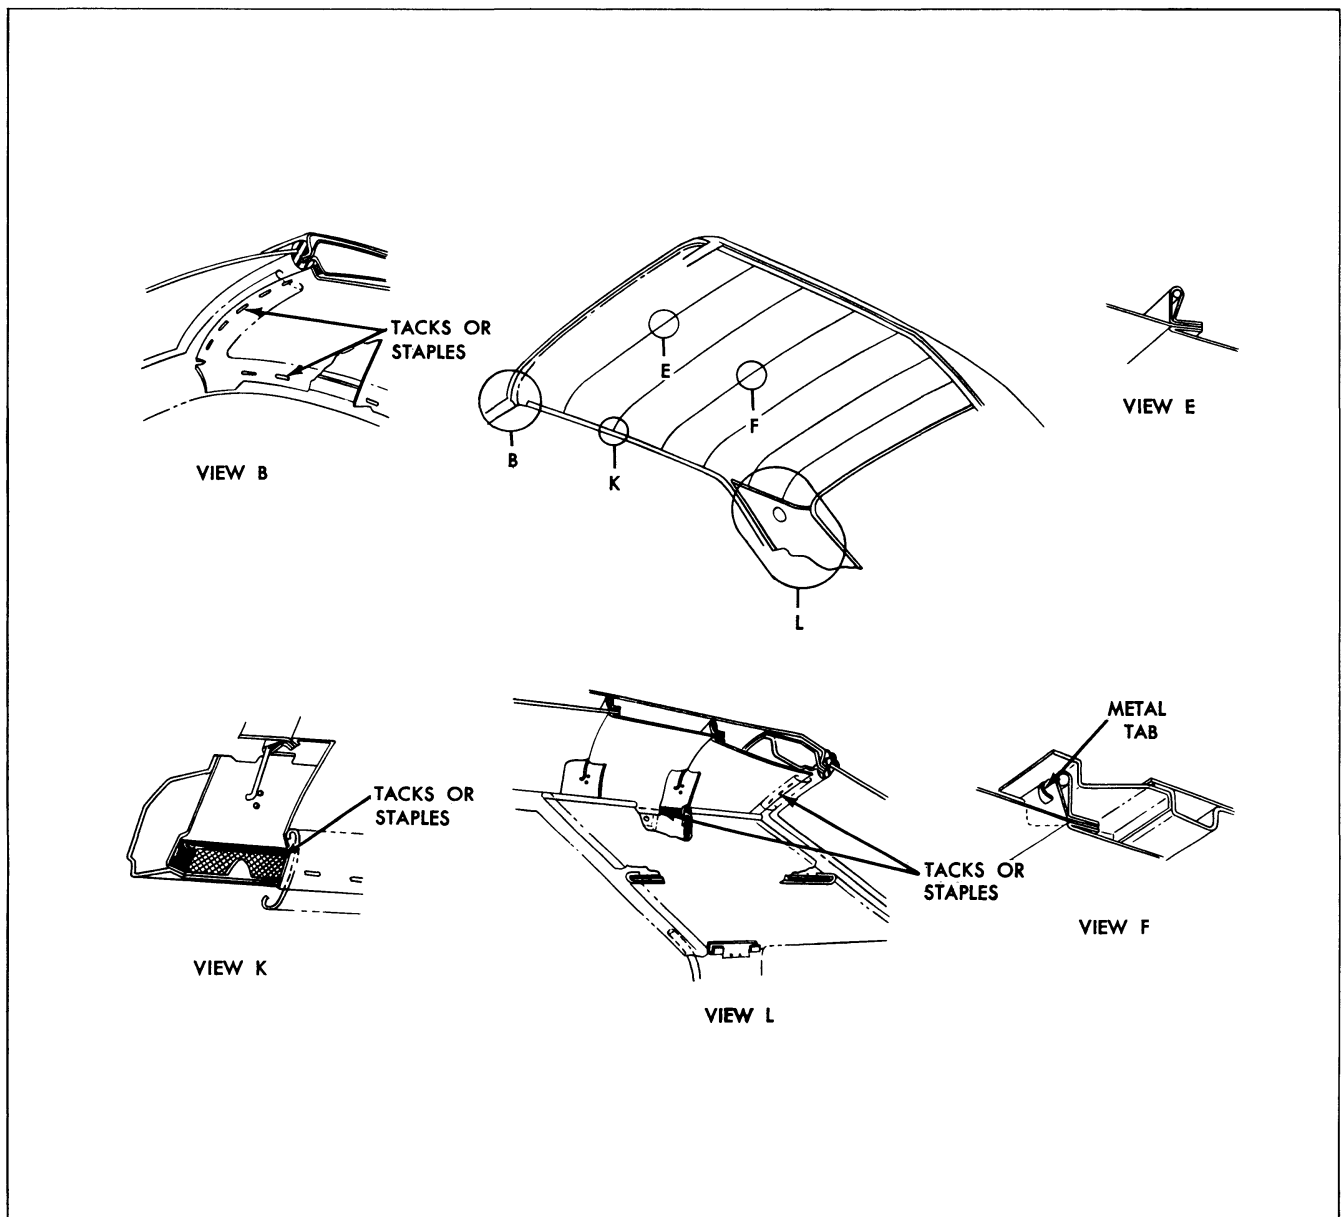

Fig. 7-4 Headlining Installation - 47 Style
- On 47 styles, remove tacks or staples along side roof rails and rear quarter areas (view K, Fig. 7-4).